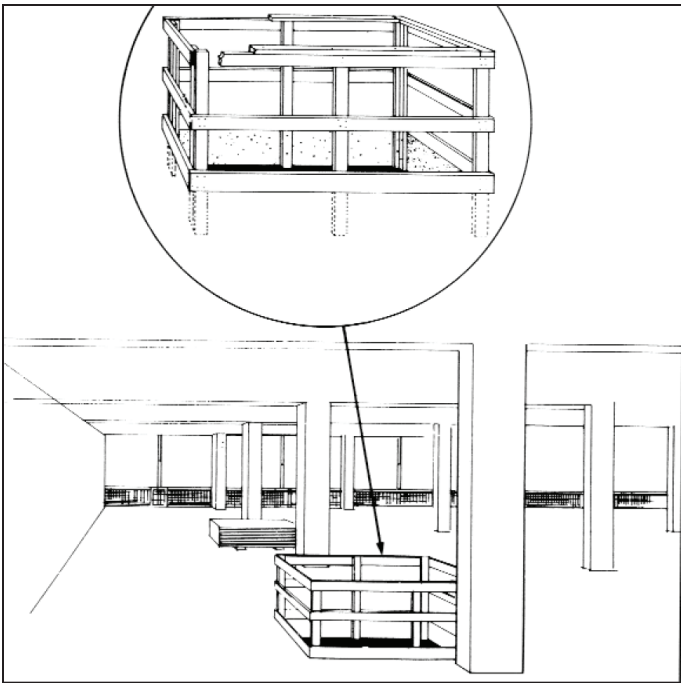

Figure 3. Guardrails can be used to protect floor openings. (Courtesy Construction Safety Association of Ontario)
12. Because of size and location in narrow passageways, floor holes and openings are best covered over with material that is equal to the strength of the surrounding floor or surrounded by a guardrail (Figure 3).